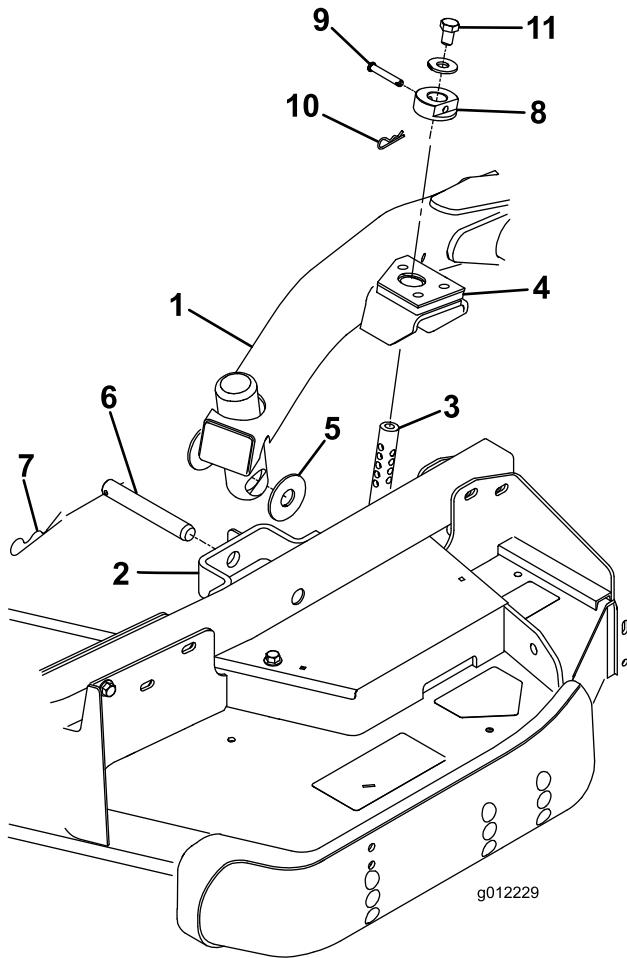

Figure 4
2. Move the lift lever to the Float position. Push a lift arm down until the holes in the lift arm line up with the holes in the castor arm bracket and the height of cut rod can be inserted into the lift arm pads (Figure 4).
3. Secure the lift arm to the castor arm with (2) thrust washers, a clevis pin and a hair pin cotter. Position the thrust washers between the lift arm and the castor arm bracket (Figure 4). Insert end of cotter pin into the slot in the castor arm tab to retain cotter pin.
7. Install the height of cut collars onto the height of cut rods and secure with the clevis pins and hair pin coppers (Figure 4). Head of clevis pin to be positioned toward the front of the deck.
8. Install a 1/2 x 3/4 inch bolt and a washer to top of each height of cut rod (Figure 4).